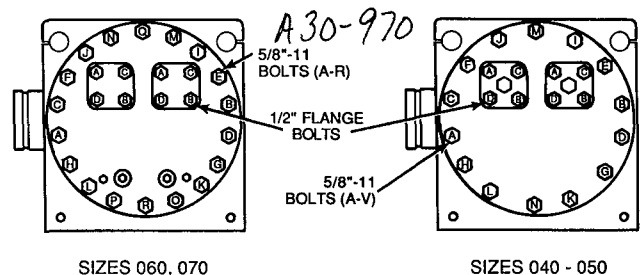

Fig. 15 — Cooler Head Bolt Tightening Sequence (Typical Tube Sheet)
2. Bolt tightening sequence is outlined in Fig. 15. Follow the numbering sequence so that pressure is evenly applied to gasket.